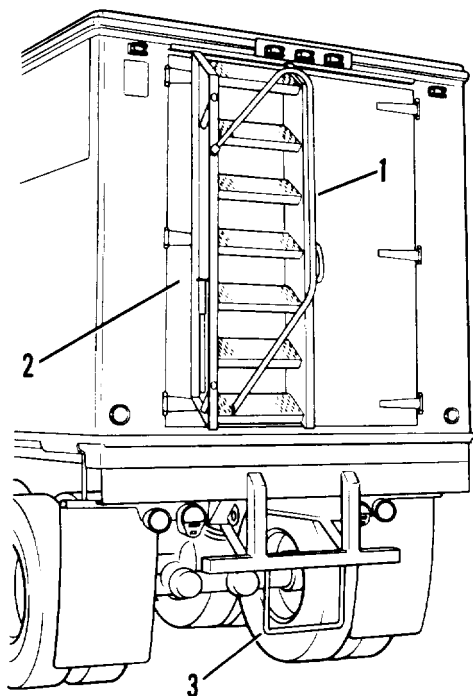

Figure 2-11. Stepladder and retractable step
a. The M129A3 semitrailer van has a stepladder (1, figure 2-11) to aid in climbing in and out of van body.
b. The stepladder (1) hangs on left rear door (2) when not in use. It is held in place by removable pins fastened on a chain to the body.
c. A chain holds up retractable step (3) when not in use.